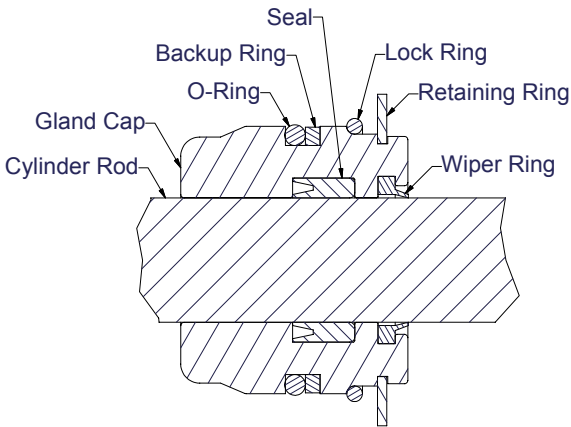

Figure 4-7, Gland Cap Seal
3. Install the seals and wipers in the gland cap. Note the direction of the seals. The cupped side or O-ring side of the seal should be facing the piston. (Figure 4-7)